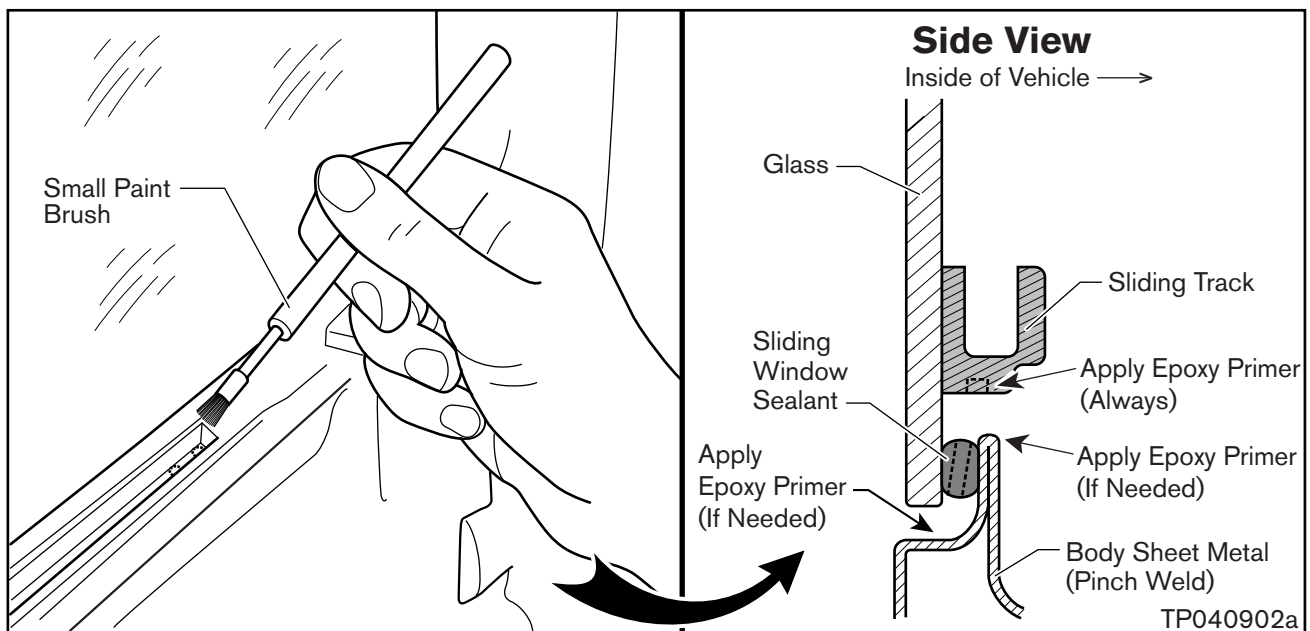

Figure 7
6. Use a small paint brush to apply Epoxy Primer to the 5-mm drilled holes in the bottom of the Sliding Track. Also, apply Primer to the Body Sheet Metal if you damaged the paint while drilling (remove vinyl tape first). See Figure 7.